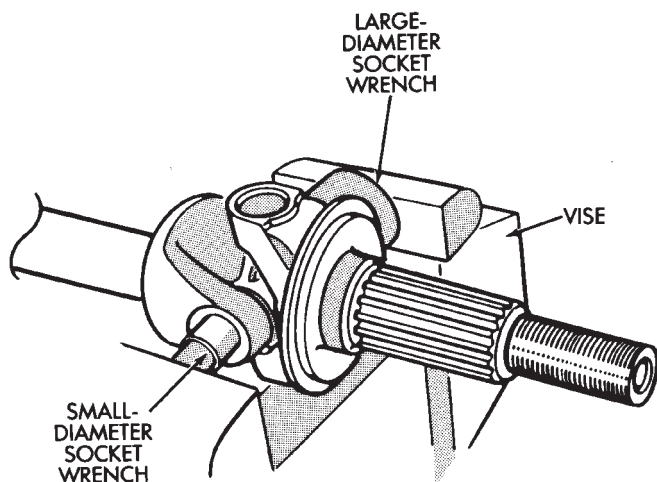

Fig. 5 Yoke Bearing Cap Removal
- (3) Locate a socket where the inside diameter is larger in diameter than the bearing cap. Place the socket (receiver) against the yoke and around the perimeter of the bearing cap to be removed.
- (4) Locate a socket where the outside diameter is smaller in diameter than the bearing cap. Place the socket (driver) against the opposite bearing cap.
- (5) Position the yoke with the sockets in a vise (Fig. 5).
- (6) Compress the vise jaws to force the bearing cap into the larger socket (receiver).
- (7) Release the vise jaws. Remove the sockets and bearing cap that was partially forced out of the yoke.
- (8) Repeat the above procedure for the remaining bearing cap.
- (9) Remove the remaining bearing cap, bearings, seals and spider from the propeller shaft yoke.